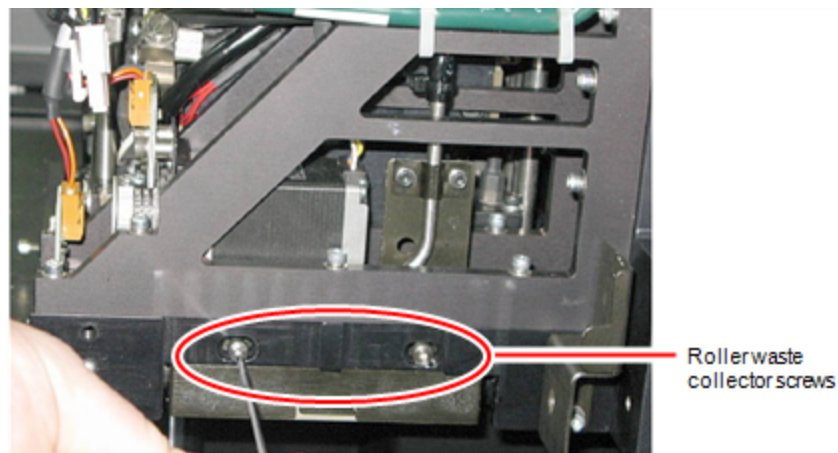

Figure 6-34 Removing the roller waste collector covering
1. Return the roller waste collector to the print block and screw on the covering (see Figure 6-34 on the previous page).